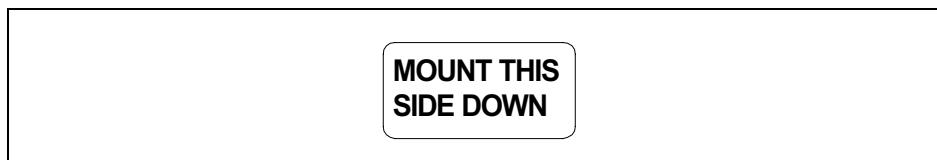

Figure 7 MOUNT THIS SIDE DOWN Sticker
- 1 You must install the OSU vertically. To do so, make sure the bottom of the OSU faces the earth. This is the side of the OSU labelled with a sticker "MOUNT THIS SIDE DOWN". The sticker is illustrated in Figure 7.